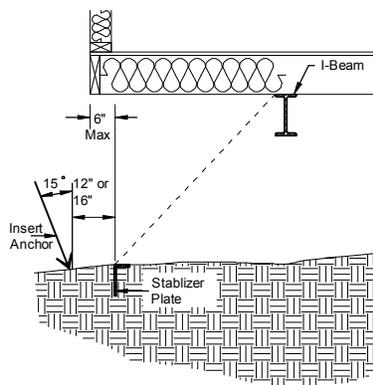

Figure 81. Determining anchor and stabilizer plate location
1. **Locate anchor.** Select a location for the anchor under the home but within six inches of the exterior wall (**Figure 81**). Avoid locations that will interfere with skirting.